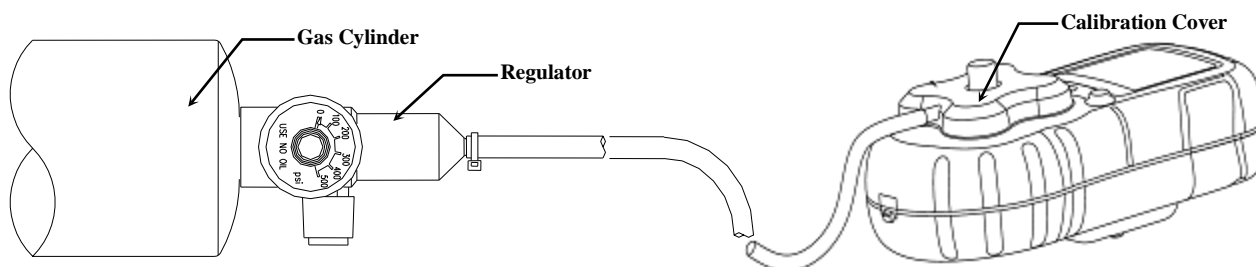

Figure 3: Calibration of RECON/4a
- Connect the cylinder of calibration gas to the regulator and attach the calibration cover to the RECON/4a and open the valve on the regulator, reference figure 3. The **RECON/4a** display will change to indicate the sensor response.